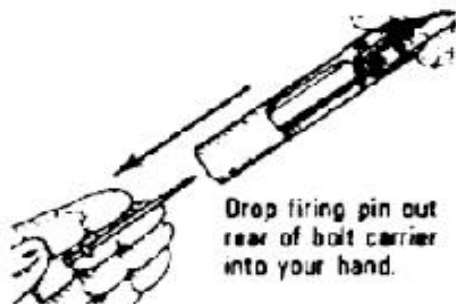

Figure E-14. Removing the firing pin.
l. Remove the firing pin by allowing it to drop out of the rear of the bolt carrier into your hand (figure E-14).